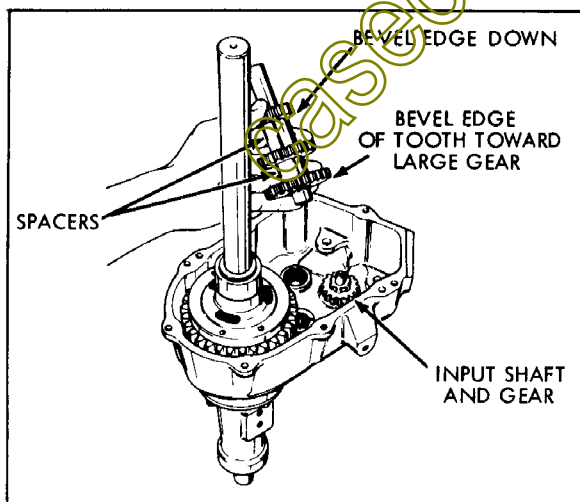

Figure 2-10
- Install the three gear cluster, with the smallest gear up. (Fig. 2-10)
- Install input shaft in case. Use a soft mallet to seat shaft and gear completely. Binding can occur if the shaft is driven in only part way (Fig. 2-10)